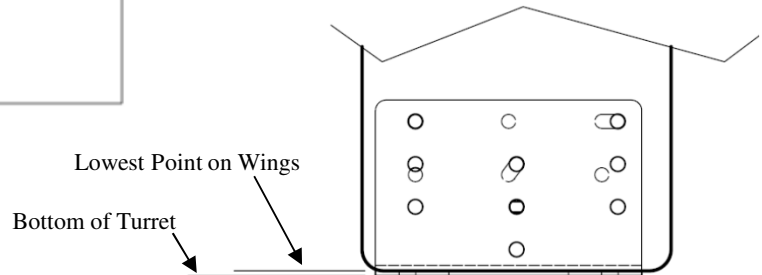

Figure 16
**CAUTION:** The bottom of the turret must extend below the lowest point on the wings to allow the arm to clear during pivot. (Figure 16)